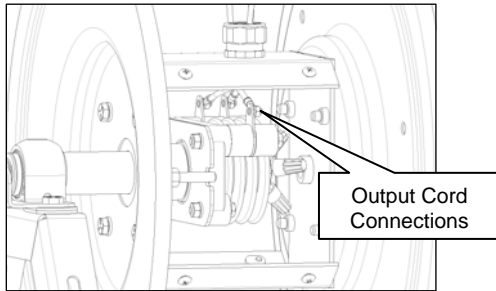

Figure 3
- Fasten the cord to the slip ring assembly with suitable ring terminals as shown in **Figure 3**.